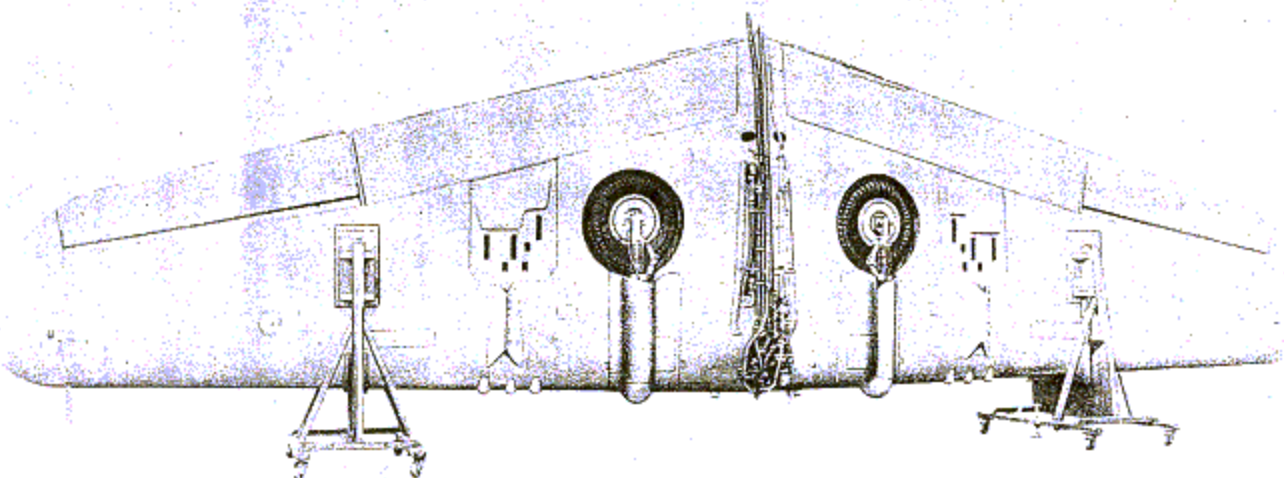

Figure 58—Wing Supported in Dollies
1. To separate the wing into its two panel assemblies, the work is most easily accomplished by supporting the wing vertically on its leading edge in a buck placed just outboard of the guns in each panel. (See figure 58.)